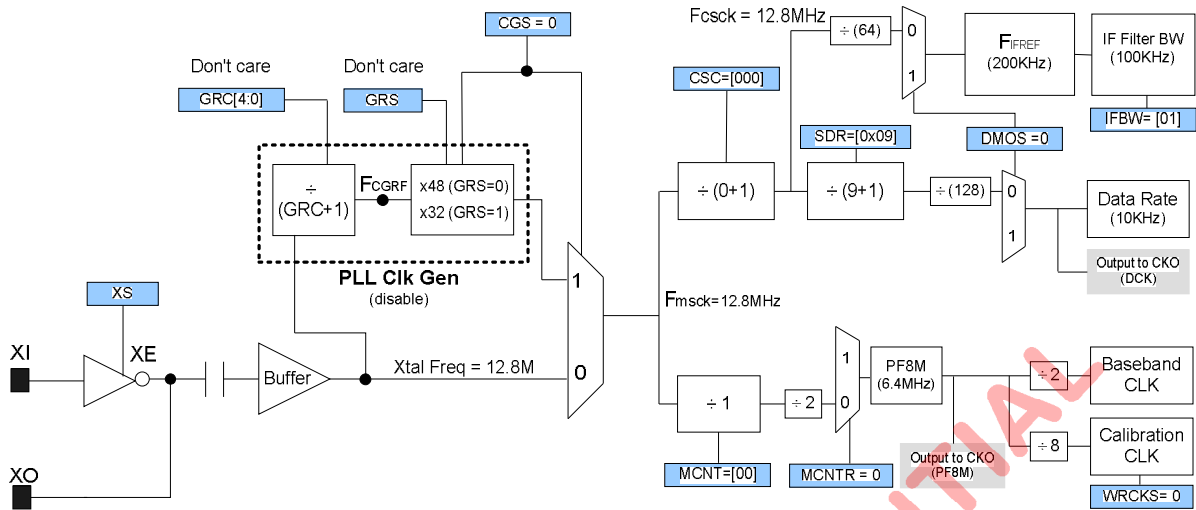

Figure 12.3 Configurations of 10Kbps when IFBW = 100KHz
5. If choosing IFBW = 100KHz, figure 12.3 illustrates the different results of CSC and F_{CSC}.